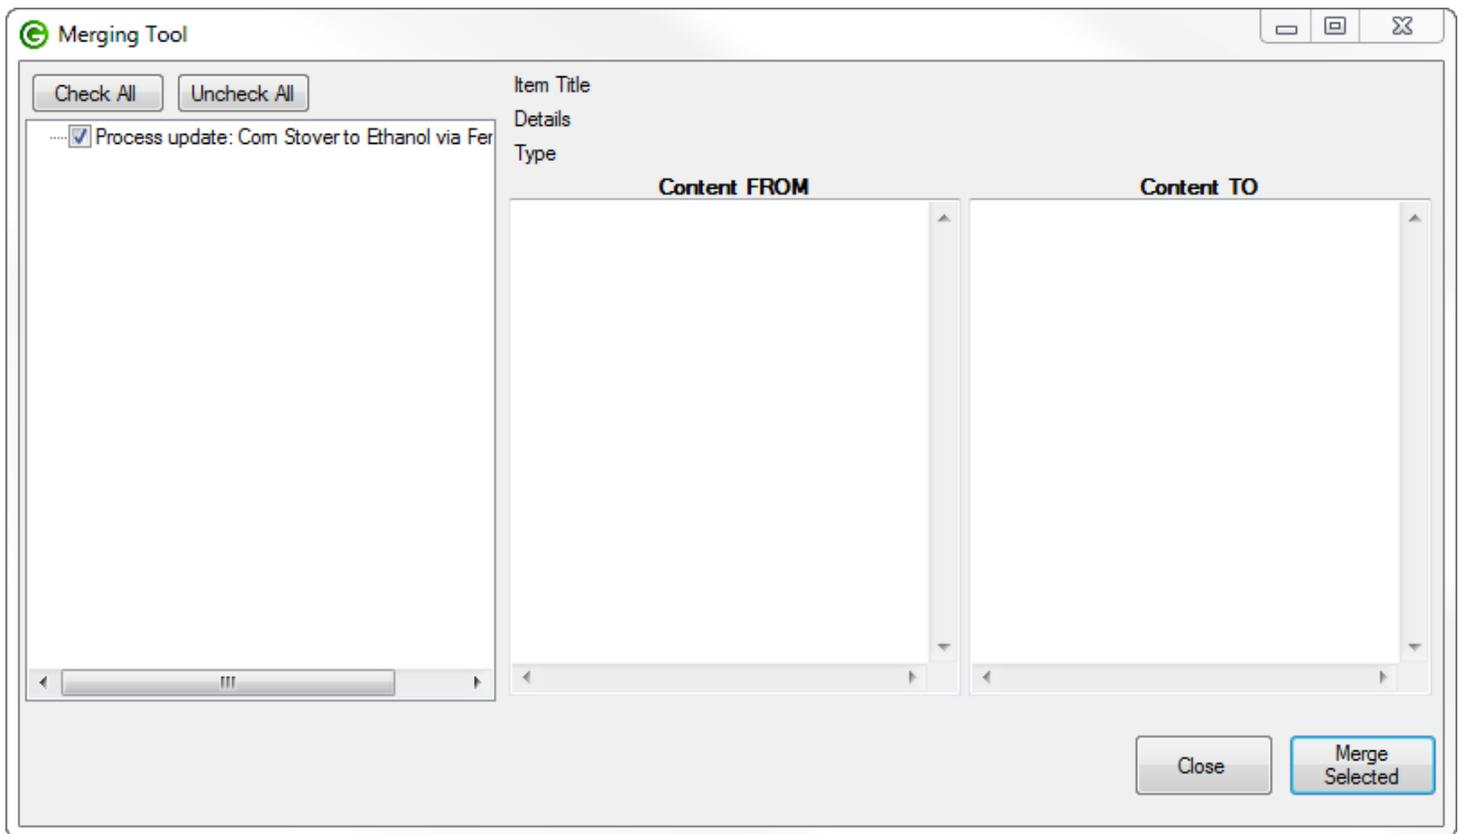

Figure 121: Merging tool main window showing differences between host and update file
**Figure: 121** shows a merge with differences remaining. What took place with this merge was the Merge Tool came across a situation where the Merge Tool couldn't programmatically resolve if an entity object coming from the "Content FROM" data file should overwrite or change the data in the "Content TO" data file risking unintended consequences. In this situation no entity objects in the "Content TO" data file were changed. But instead the entity object coming from the "Content FROM" data file was added, completely intact, to the "Content TO" data file as a new entity object.